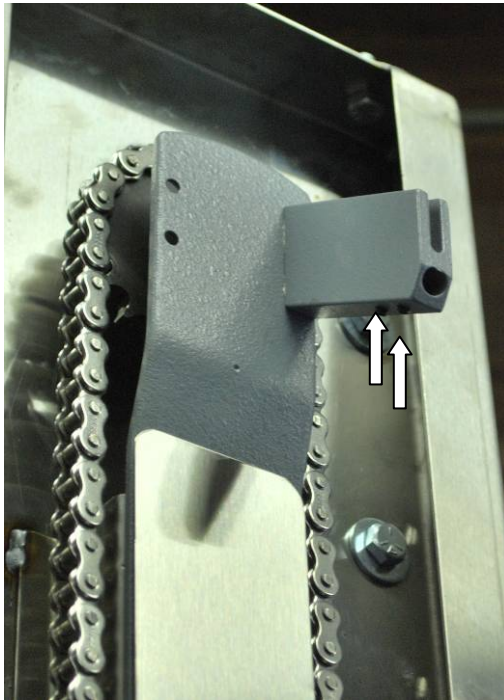

Figure 4 - Unloader Rod Mount Front View
- Attach the unloader rod with the two set screws as indicated in (Figure 4). Tighten setscrews.